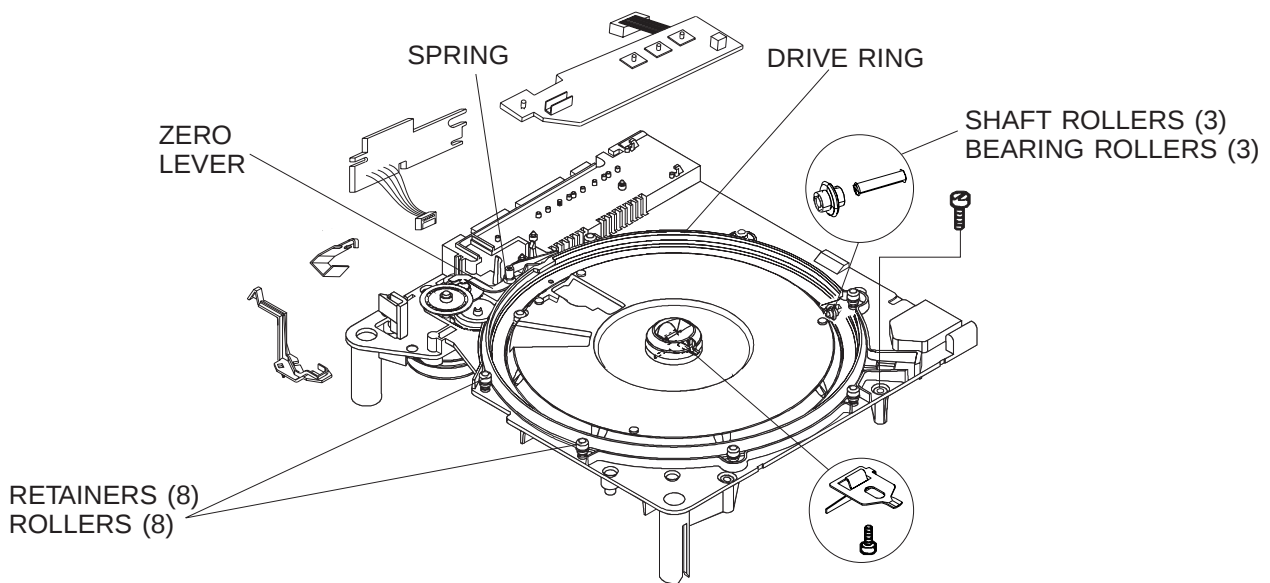

figure 4-7
- 5.** Remove the SPRING and the ZERO LEVER. See figure 4-7.
- 6.** Remove the 8 RETAINERS and 8 ROLLERS. See figure 4-7.
- 7.** Remove the DRIVE RING. See figure 4-7.
- 8.** Remove the 3 SHAFT ROLLERS and the 3 BEARING ROLLERS. See figure 4-7.